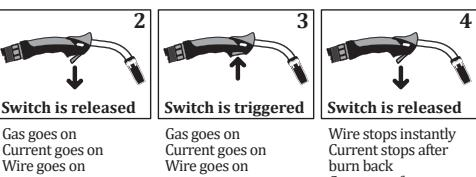

Figure 16 : Using the 4-Position
- The 4-position operates as shown in Figure 16. The 4-position provides ease of use for the welder in long-term and automatic welding operations.